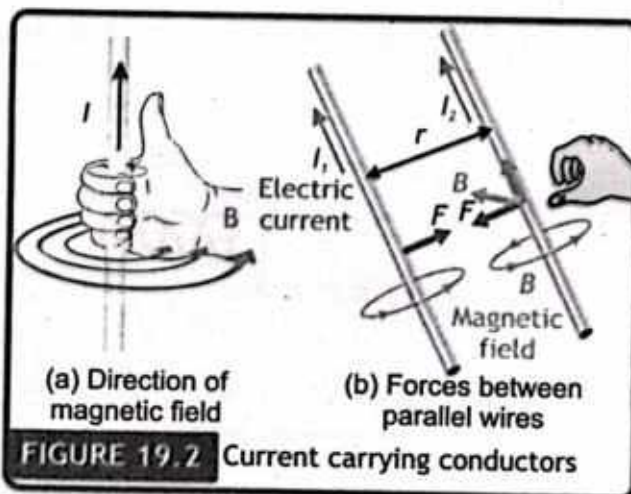

FIGURE 19.2 Current carrying conductors
The direction of the magnetic field (B) around a current carrying straight wire can be determined by the right-hand rule, as shown in figure 19.2 (a). According to right-hand rule: If the wire is grasped in fist of right hand with the thumb pointed in the direction of the current, the fingers of the hand will curl in the direction of magnetic field.
19.1.3 FORCES ON PARALLEL CURRENT CARRYING CONDUCTORS: When current in the two wires are in same direction, as shown in the figure 19.2 (b), then magnetic fields created along each of the two wires will be such that their opposite poles are in between the two wires. These opposite poles attract each other. Thus, two long parallel wires carrying a current in same direction attract each other. What will happen if the current is in opposite direction?